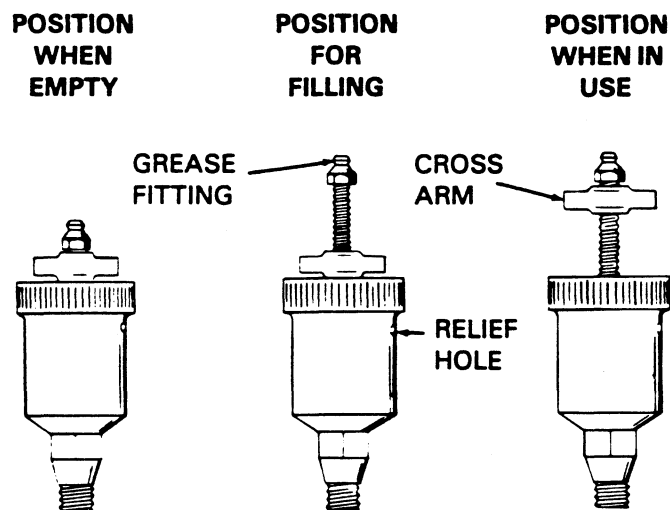

Figure 3. Automatic Lubricating Grease Cup
Before attempting to remove the impeller (2), turn the cross arm on the automatic lubricating grease cup (5) clockwise until it rests against the cover (see Figure 3). This will prevent the grease in the cup from escaping when the impeller is removed.
Fill the grease cup (5) through the grease fitting with No. 2 lithium base grease until grease escapes from the relief hole. Turn the grease cup arm counterclockwise until it is at the top of the stem; this will release the spring to apply grease to the seal (see Figure 3).